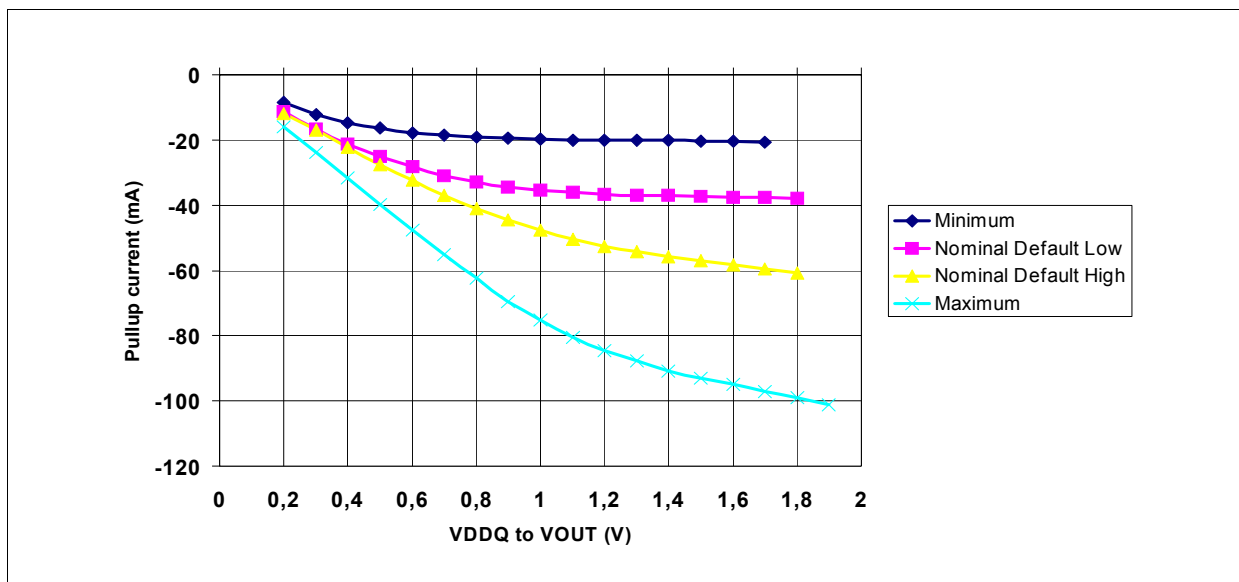
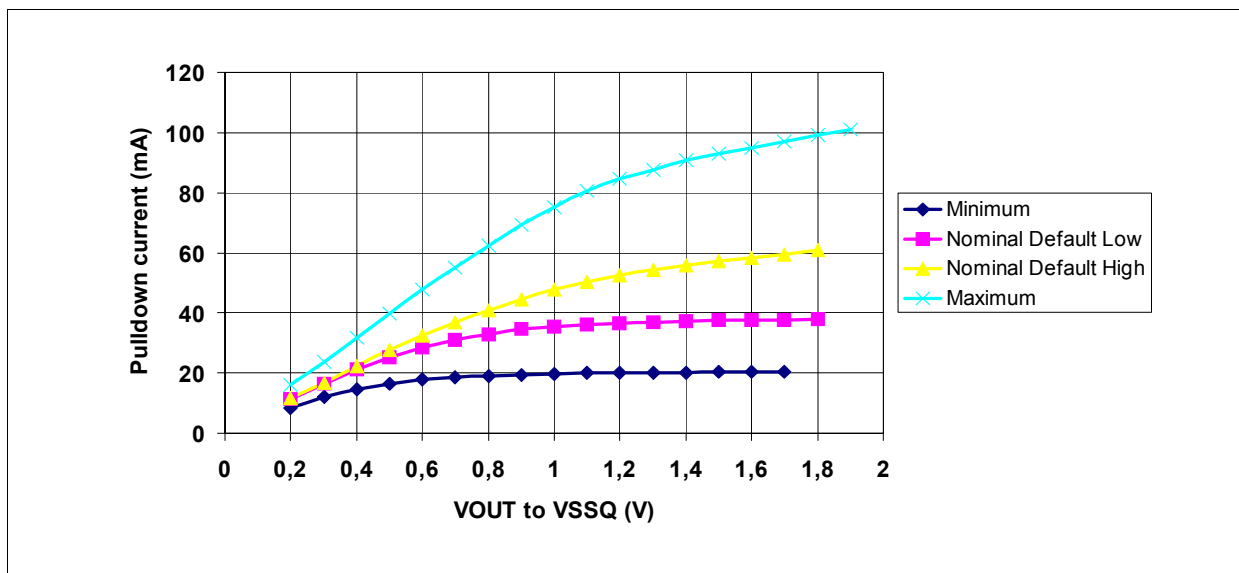

Figure 65 Full Strength Default Pull-up Driver Diagram
Figure 66 Full Strength Default Pull-down Driver Diagram
DDR2 SDRAM output driver characteristics are defined for full strength default operation as selected by the EMRS(1) bits A[9:7] = '111'. Figure 65 and Figure 66 show the driver characteristics graphically and the tables show the same data suitable for input into simulation tools.